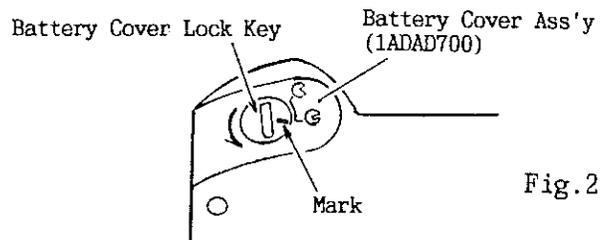

Fig.2
- 1) Using a coin, the Battery Cover lock key on the camera bottom can be turned in the direction of the arrow as shown in Fig.2. Adjust the "—" mark of the Battery Cover lock key to the "⊗" mark and remove the Battery Cover Ass'y (1ADAD700).